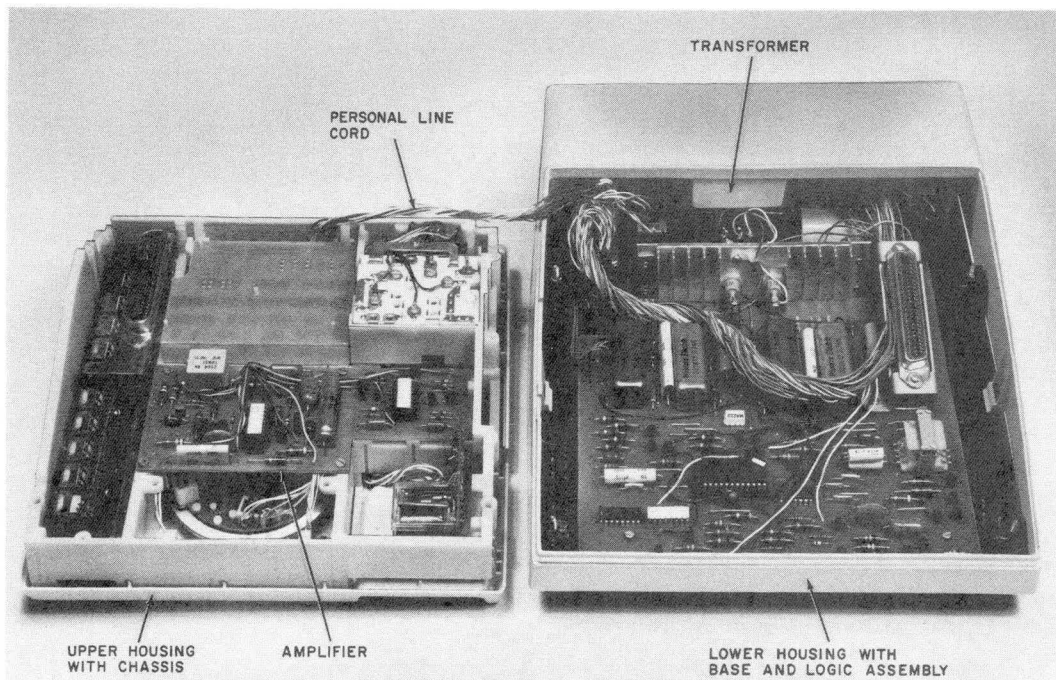

Fig. 6—Primary Set Disassembled
**2.06** The internal arrangement of the telephones is based on the use of a molded plastic chassis to which the components of the set are attached and an electrical interconnect field into which the components are plugged (Fig. 5). The interconnect field also contains positions for plugging in optional features and switches A through H for adapting the set to options. Outside connections are made by way of the set mounting cord or separate cords for such optional features as personal lines, 4A speakerphone, and repertory dialing. In primary sets (Fig. 6), the mounting cord plugs into a wiring harness which distributes leads to the line key and the control logic board. In the other desk-type sets, the mounting cord plugs directly into the line key. The system connector cable is intended to be plugged directly into the wall sets without the use of mounting cords, which are not supplied with wall sets.
**2.07** Mounted on the base of each primary set is a logic board containing control and power circuitry for two CO/PBX lines and one intercom path, and a transformer for supplying ac power to the logic board (Fig. 6). Up to seven satellite telephones can derive their power from one primary set. Each primary set contains a polarity guard circuit which prevents battery reversals on the CO/PBX lines from interfering with TOUCH-TONE dial operation and multiline conferencing.